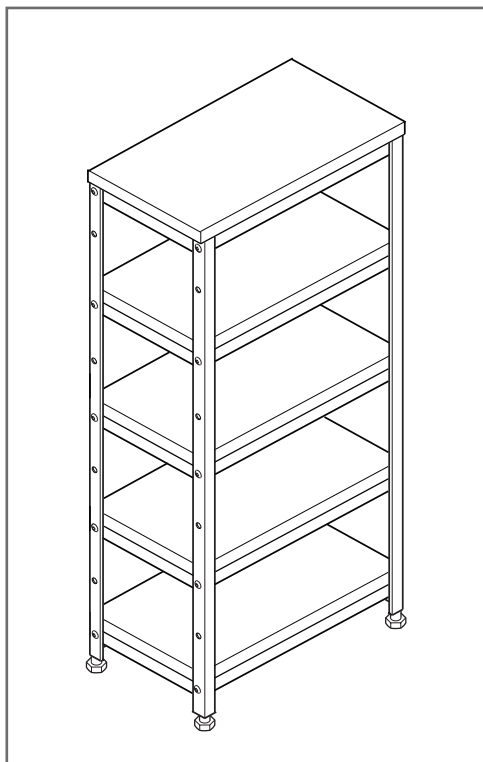

Figure 5
8. Stand the shelf unit upright and install the remaining shelves, ending with the top shelf (Figure 5).